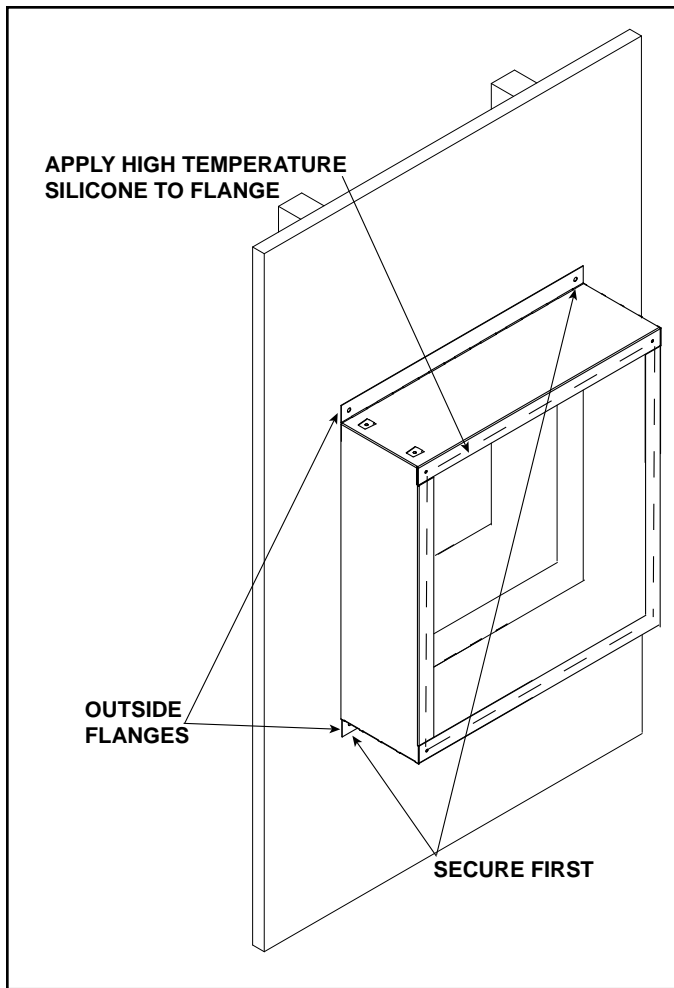

Figure 7. LPC-BEK Attached to Wall
8. Place assembled box over the framed opening in the wall with outside flanges oriented vertically and held tight to the building exterior. See Figure 7.
9. Drive two of the supplied screws through opposite ends of the two outer flanges. This will secure the LPC-BEK extension box to the building and allow for squaring of the LPC-BEK. See Figure 7.
13. After LPC-BEK has been installed and the finishing of the wall has taken place, apply a bead of high temperature silicone to the LPC-BEK around the entire metal flange, as shown in Figure 7 with the dotted line.